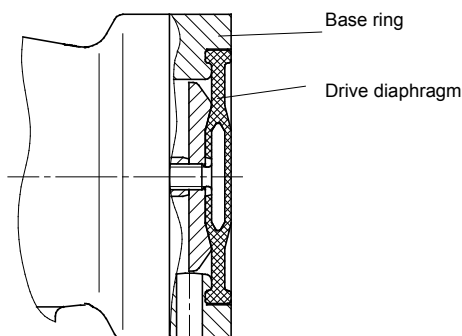

Fig. 68
- Set the stroke length to 50%. Move diaphragm to the base ring – the diaphragm must be in the middle position (see Fig. 68).